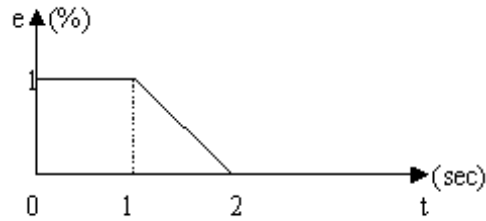

Figure 2:
- (b) Specification of a PI controller are $K_p=7$, $K_i= 2 \text{ sec}^{-1}$ and $P_I(0)$ (controller output at $t=0$)=24%. Plot the controller output as the function of time for the given error as shown in figure2. [8+8]